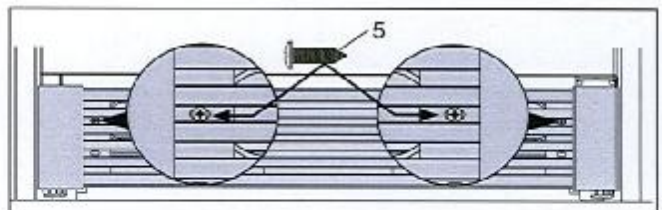

Figure 19.
(Single Unit) Attach the kick plate to the cabinet with two (2) screws. (See Figure 19)